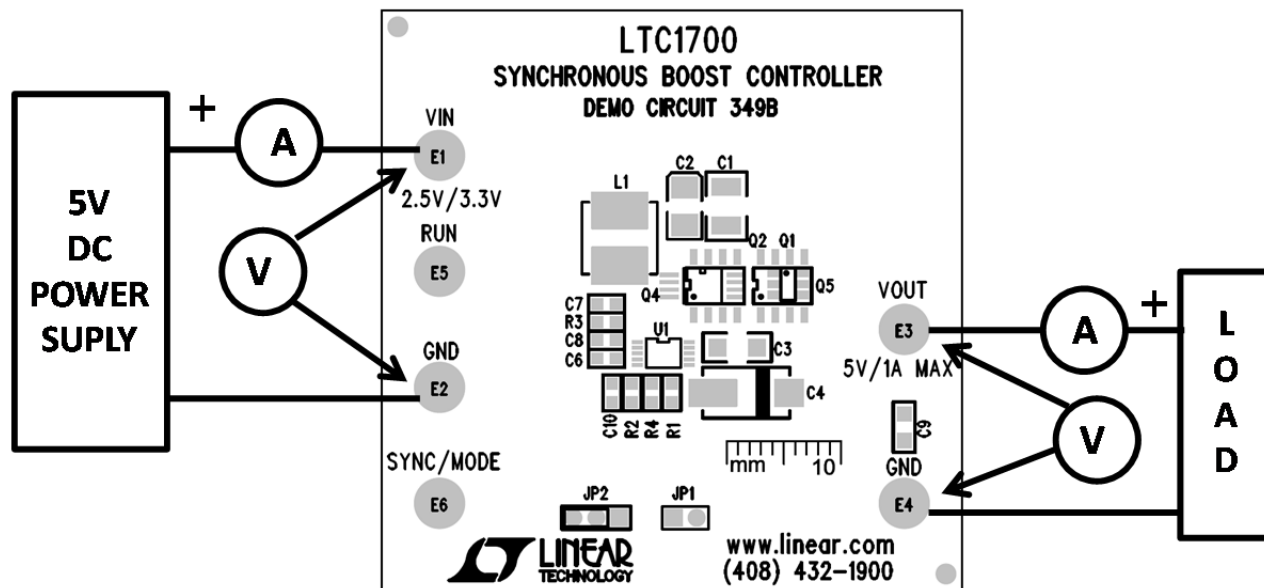

Figure 1. DC349B Test and Measurement Setup
1. Proper setup is essential for accurate and meaningful evaluation of efficiency and regulation. Figure 1 shows the appropriate arrangement of supply, load, ammeters and voltmeters.